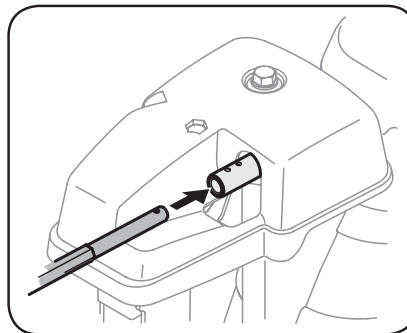

Figure 2-24
2. Insert chute control rod into chute control head. Push rod as far into chute control head as possible, keeping holes in rod pointing upward. See Figure 2-24.